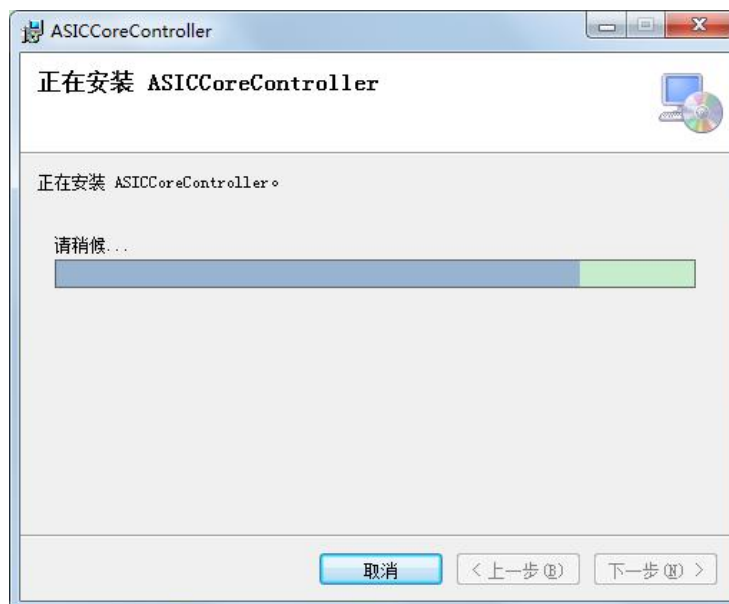

Figure 4-4 Software installation interface 4
4. During installation, the installation progress interface will appear, please wait for the installation to complete, as shown in Figure 4-4.